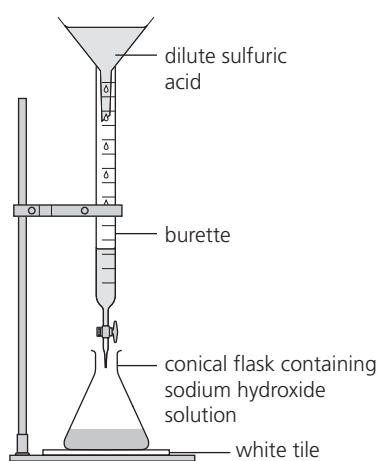

Figure 3
- 1 Clamp a burette vertically and use a filter funnel to fill it with some of the sulfuric acid solution, ensuring that some of the acid solution runs through the tap (Figure 3). The filter funnel is now removed.